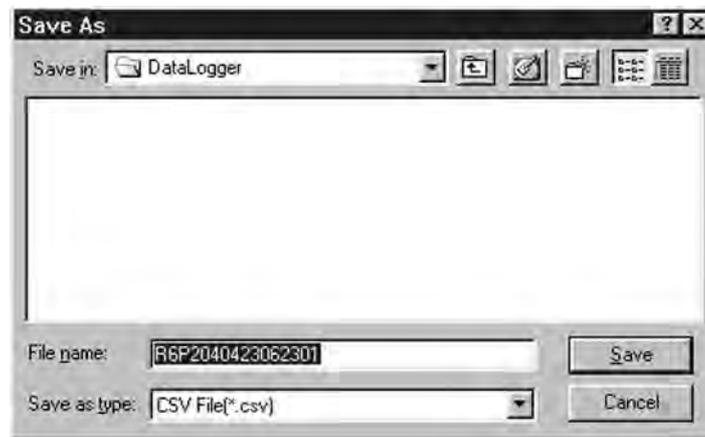

Fig. 119
2. Select the disk and folder where the data will be saved and specify its file name. (Fig. 119)